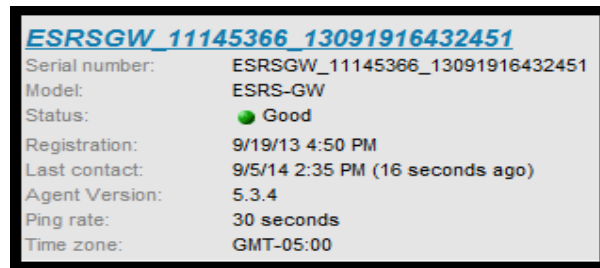

Figure 152 Example of source gateway serial number on ServiceLink
1. The first step is to determine the source gateway or virtual edition serial number. You can determine this information from the Gateway Configuration Tool or the SRS GUI Dashboard, but for the backend migration, you can determine all necessary information from the SRS Portal or ServiceLink (ESRS.EMC.com), as shown in Figure 152 on page 120.